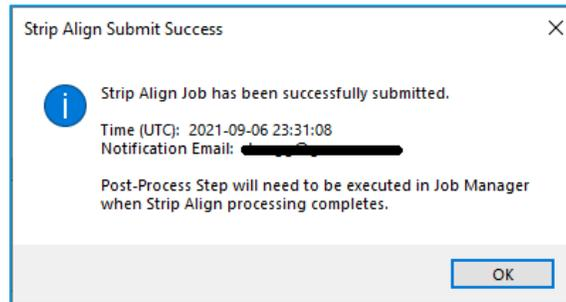

Figure 104 - Strip Align Job Submission Confirmation
14. A successfully submitted job notification will appear confirming the job submission (Figure 104).